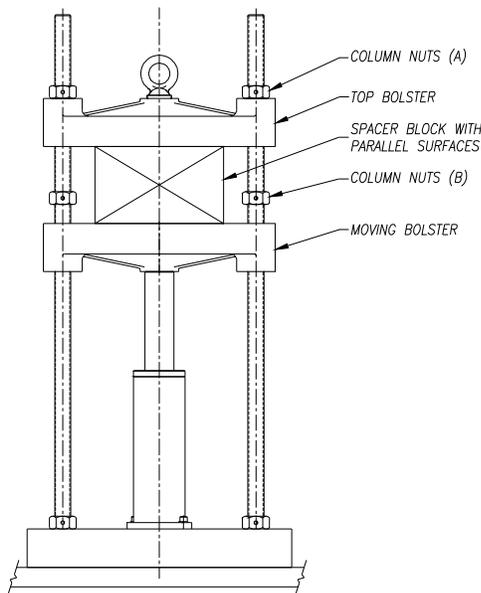
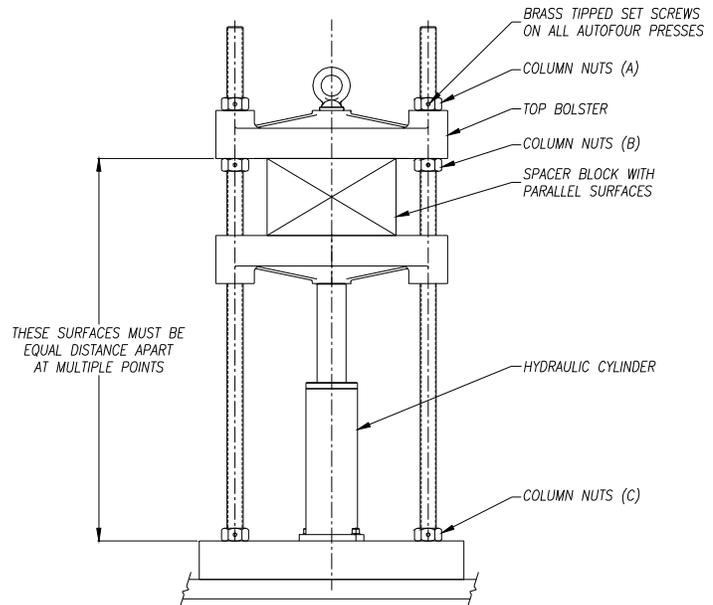

Figure 3-5
Figure 3-6
5. Insert the spacer block on the moving bolster and raise the top bolster against the upper column nuts (A) (FIG 3-5) and tighten the lower column nuts (B) (Fig 3-6) finger tight against the bottom of the top bolster.
6. Measure and equalize the distance from the bottom surface of the top bolster to the top surface of the base bolster at two points (four points on Auto Four presses) as far apart as possible (FIG 3-6). Adjust the lower column nuts (B) as needed to insure parallelism between the top bolster and base bolster. Turn the upper column nuts (A) finger tight against the top bolster.
8. Tighten the lower column nuts (B) against the bottom surface of the top bolster as tight as possible.
9. This is a good time to check the column nuts (C) on top of the base bolster and retighten if necessary.